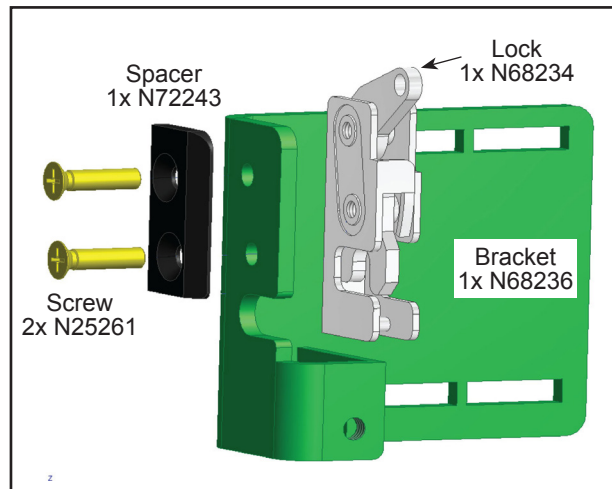

Figure 6 - Sub-Assembly of the Latch, Step 1
1.6. Assemble the latch by using the parts indicated in Figures 6 and 7.